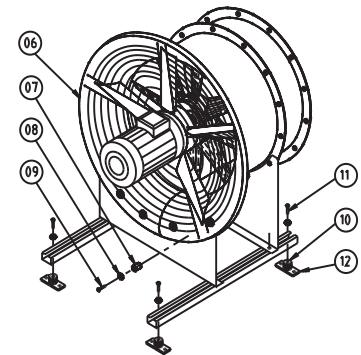

Fig. 5. Mount for types ACP and ACG Smoke 400-1120
Mount the fan housing in the two flange holes in the mounting plates and fit the distance bush (fig. 5, pos. 07) by means of joining elements (pos. 08 and 09) between inlet cone and mounting plate (pos. 06).
Vibration dampers (fig. 5 pos. 10) should be fitted on the C-profile ends using bolts (pos. 11).